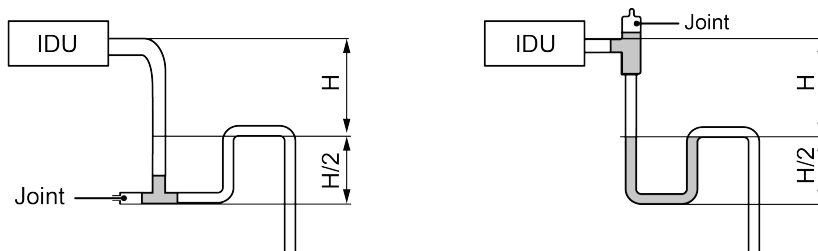

Fig.4.38
- (5) Install the U-trap as shown in Fig.4.38.
- (6) One U-trap should be installed for every unit.
- (7) Convenient clean should be considered when installing U-trap.